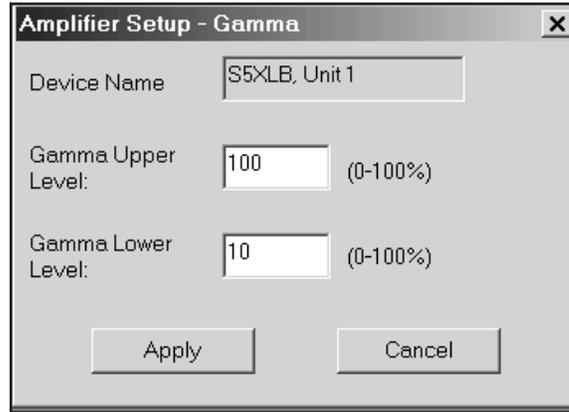

Figure 57 Gamma Amplifier Setup Screen
2. In the Amplifier Setup - Gamma screen (Figure 57) enter the Gamma energy window values of 10% and 100%.